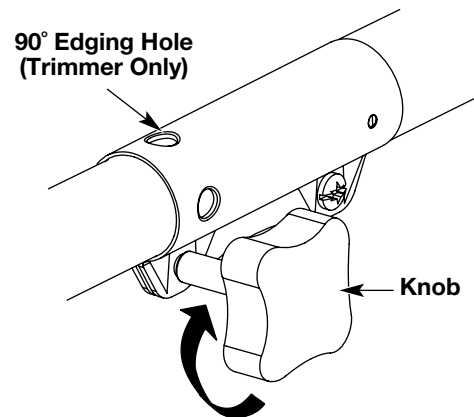

Fig. 21
3. Turn the knob clockwise to tighten (Fig. 21).
For edging (when using the line head cutting attachment with EZ-Link™ models), lock the release button of the cutting attachment into the **90° edging hole** (Fig. 21).